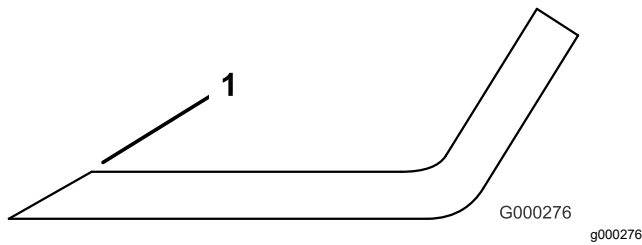

Figure 128
3. Examine the cutting edges of all of the blades and sharpen the cutting edges if they are dull or nicked (Figure 128).
Note: Sharpen only the top of the cutting edge and maintain the original cutting angle to ensure sharpness (Figure 128). The blade